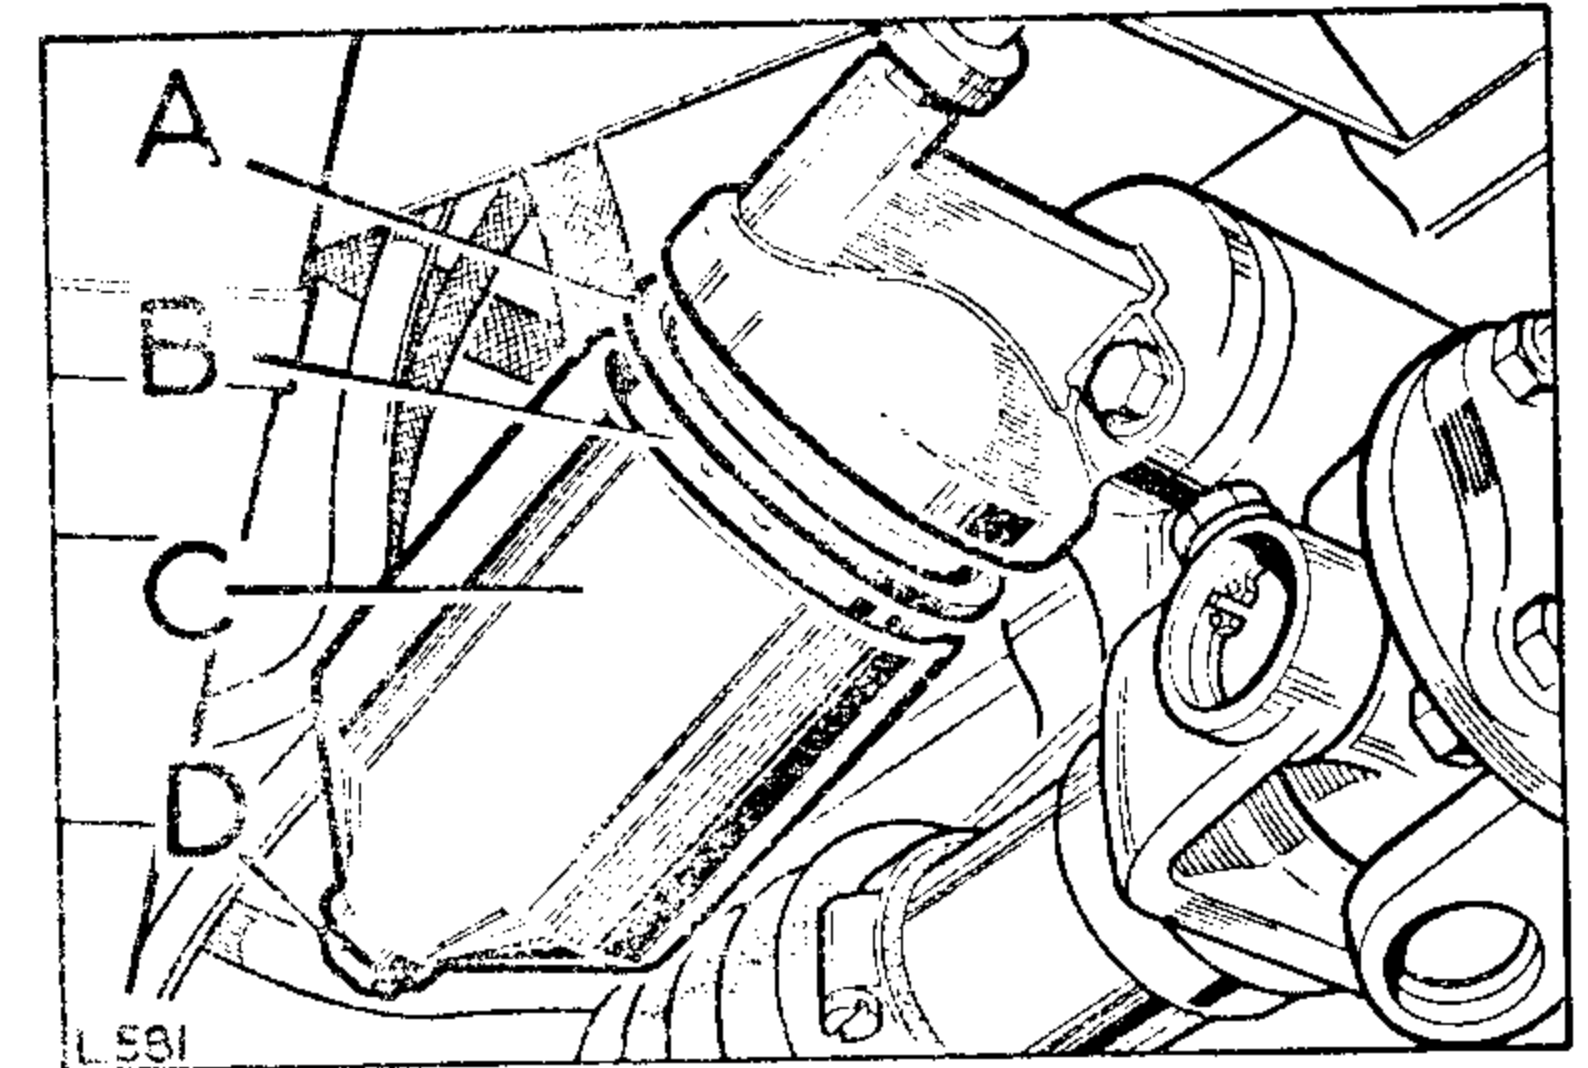

Fig. 3. Engine oil filter, 4-cylinder models
2. Unscrew the bolt (D) Figs. 3 and 4 from the filter adaptor and remove the container (C) Figs. 3 and 4 and element (B) Figs. 3 and 4.
3. Discard the used filter element and large rubber washer (A) Figs. 3 and 4.